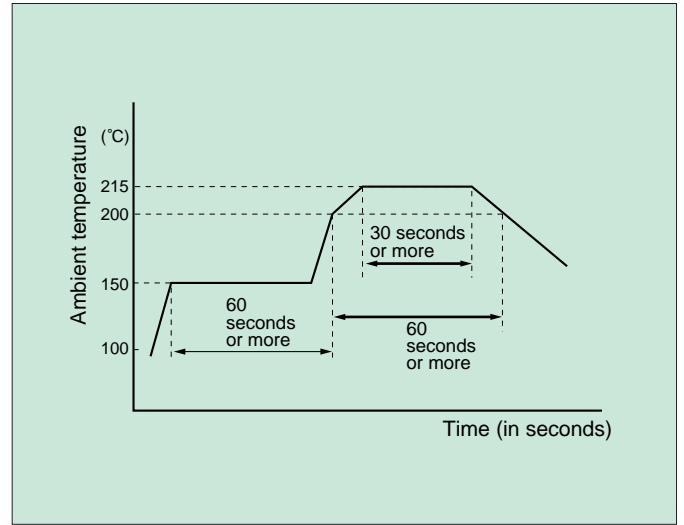

Figure 4
- (1) The recommended solvent is Fluorinate FC-70 or equivalent.
- (2) Complete hot air reflow within 20 seconds at an ambient atmospheric temperature of 215°C, or within 60 seconds at an ambient atmospheric temperature of 200°C.
- (3) Refer to Figure 4 for an example of a recommended temperature profile for vapor phase reflow soldering.